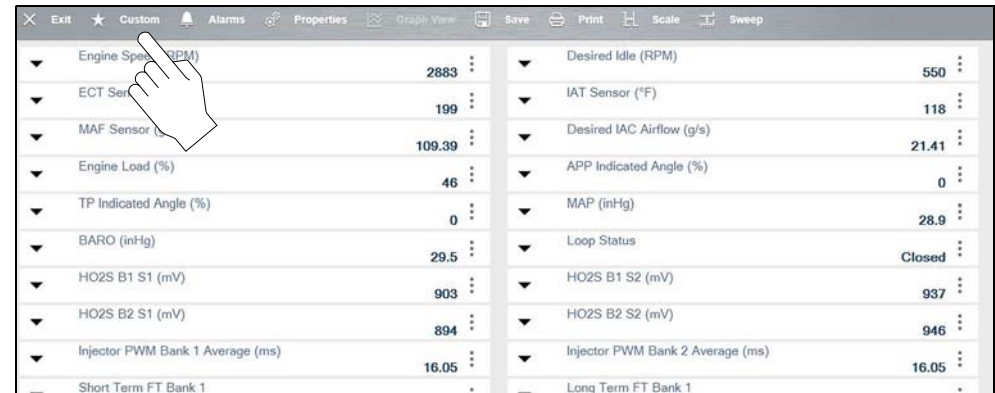

Figure 5-42
1. From the Data screen select **Custom** from the toolbar (Figure 5-42).